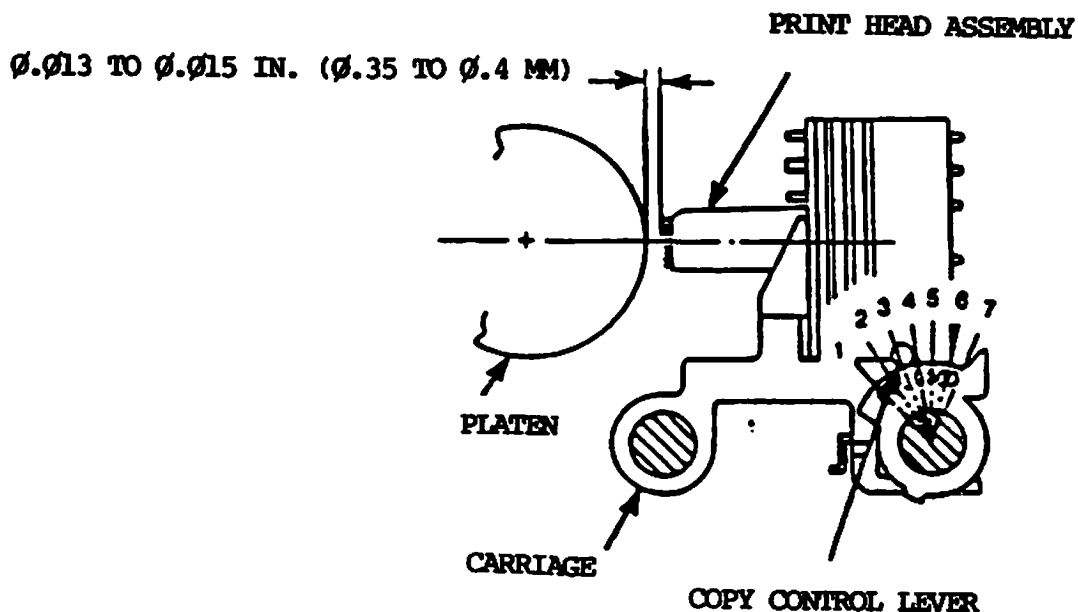

Figure 4-2 Print Head Gap
3. Use feeler gauges to measure the distance between the print head and platen (see Figure 4-2). The gap should measure between $\varnothing.013$ and $\varnothing.015$ in. ($\varnothing.35$ and $\varnothing.4$ mm) and should be the same on both ends of the platen.